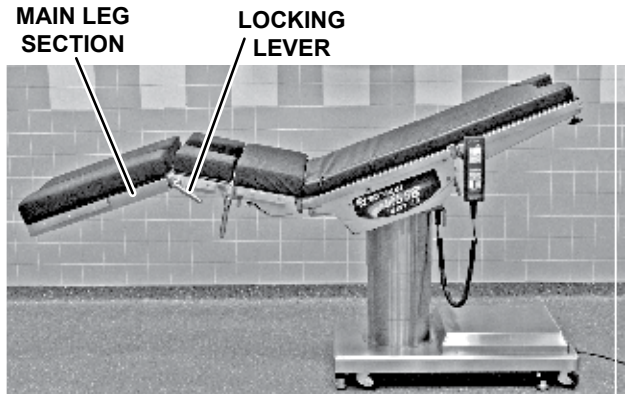

Figure 11. Lower Leg Adjustment
- b. When articulating a patient into REVERSE TRENDLENBURG on the table, alternate between LEG UP and REVERSE TRENDLENBURG functions until the patient's legs have reached a height where the main leg section needs to be lowered to create a break at the knee (Figure 11).